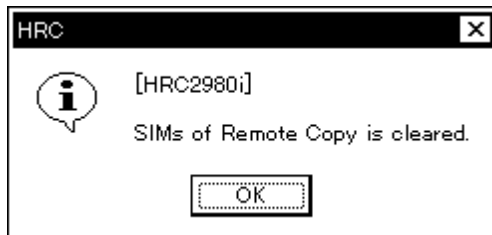

Figure 4.11 Clear SIM Completion
4. If you selected **Yes**, the subsystem verifies that the existing SIMs are being cleared (see Figure 4.11).